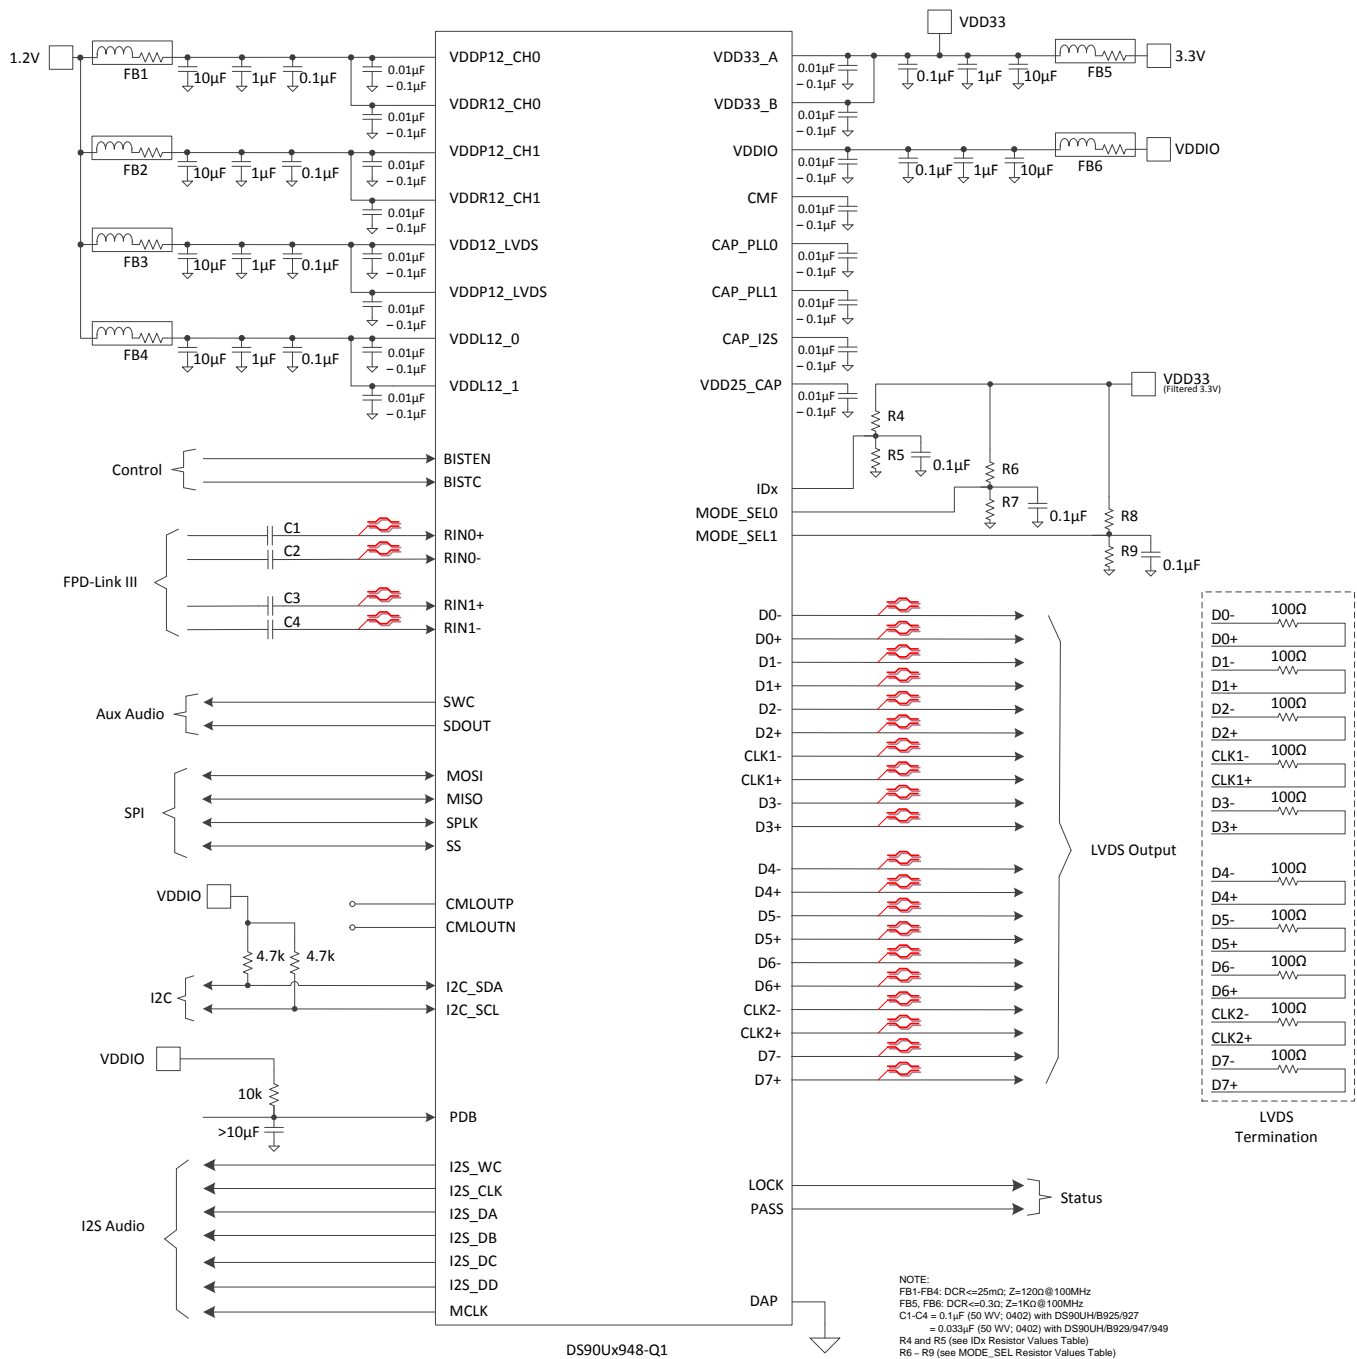

Figure 46. Typical Connection Diagram (STP)
Bypass capacitors should be placed near the power supply pins. At a minimum, four (4) 10μF capacitors should be used for local device bypassing. Ferrite beads are placed on the two sets of supply pins (VDD33 and VDDIO ) for effective noise suppression. The interface to the graphics source is LVDS. The VDDIO pins may be connected to 3.3V or 1.8V. A capacitor and resistor are placed on the PDB pin to delay the enabling of the device until power is stable. See Figure 46 for a typical STP connection diagram and Figure 47 for a typical coax connection diagram.